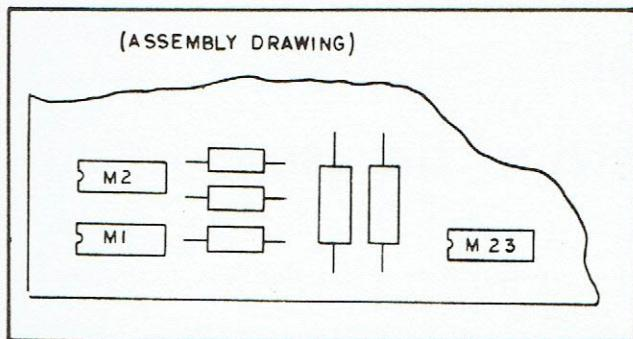

Figure 4E.2 - Component Identification
**4E.12 Identification of logic function symbols.** Individual logic functions are identified on the schematic by the designator of the logic device in which they appear (except on the simplified schematics in the "Theory of Operation" sections). In most cases, circuitry for more than one function is encased within the same module. To distinguish between them, an additional letter designator is affixed on the schematic, to indicate different sections of the same device (A, B, C, D, etc.), as required to cover all functions (see figure 4E.3).